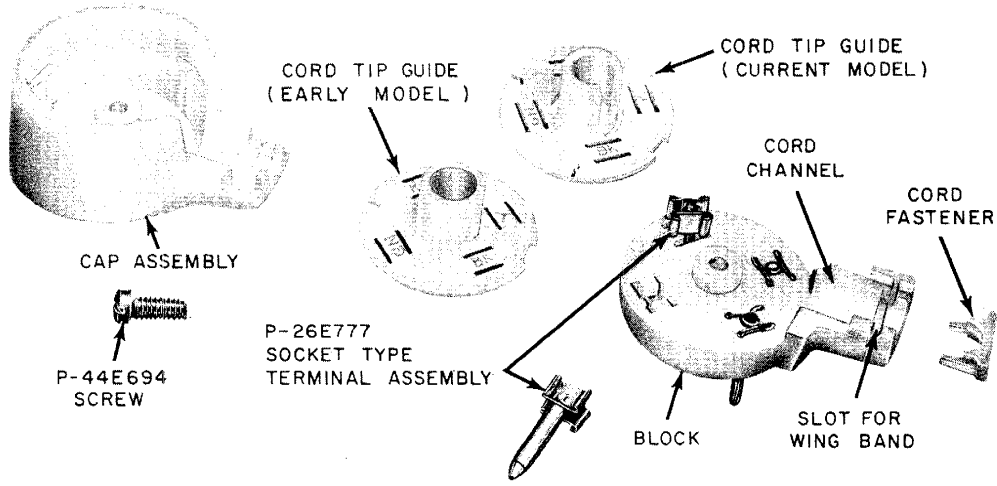

Fig. 4—505A Plug Disassembled
**2.04** The 505A plug (Fig. 3) is a 4-contact plug similar to the 504A plug; in addition, however, it has a cord fastener (Fig. 4) which holds the cord in place while spade tips are being connected. The cord fastener also anchors the mounting cord in the assembled plug.
**2.05** The current model cord tips guide is shown in Fig. 4. It provides a cutout to permit the use of a cord equipped with a flat eyelet stay band.